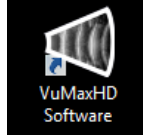

Fig. 6 - VuMAX HD Software Icon
- ① **Power ‘On’ System:** By pressing the front panel power switch located on the bottom right side of the unit’s front panel.
- ② **Starting Application:** From Windows desktop, double click on the ‘VuMaxHD Software’ icon (Fig. 6).